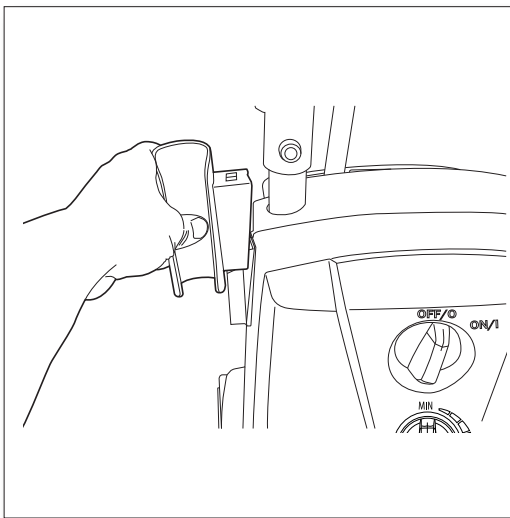

Fig. 1
- Slide the spray gun holder onto the left side of the washer when facing it. This does not require any screws. **(Fig. 1)**